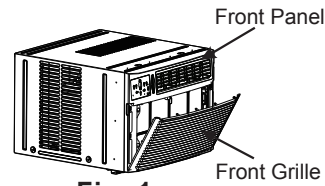

Fig. 1
1. Pull down front grille and remove filter. (See Fig. 1.)